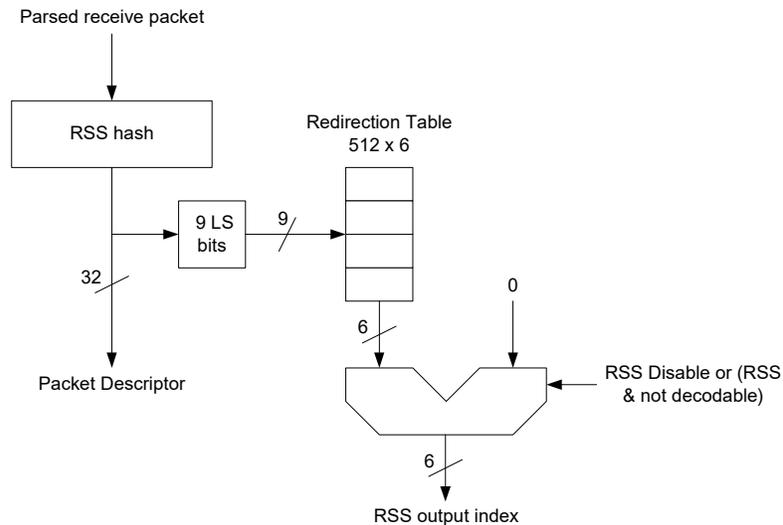
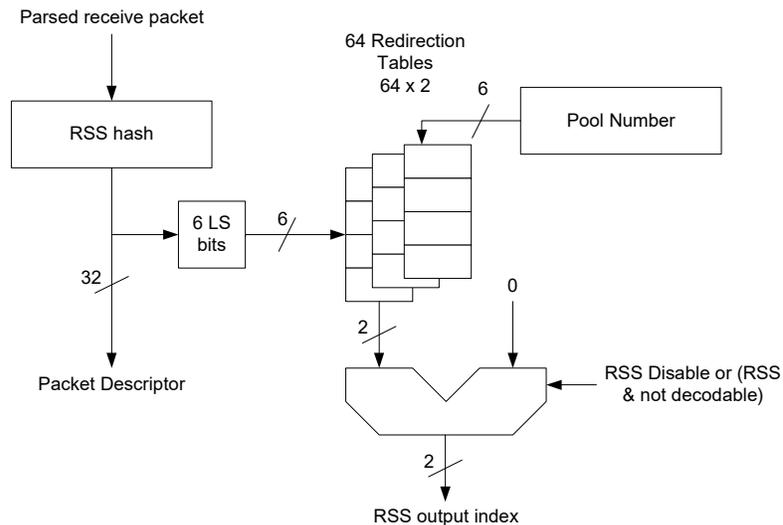

Figure 7-9. RSS Block Diagram (*MULTIPLE\_RSS* = 0b)
Figure 7-10. RSS Block Diagram (*MULTIPLE\_RSS = 1b*)
Figure 7-9 and Figure 7-10 show the process of computing an RSS output:
3. The X550 supports two modes of RSS defined by the MRQC.MULTIPLE\_RSS bit. When set to 0b a single RSS key and redirection table are supported. In this mode (usually used when virtualization is not enabled) the nine LSBs of the hash result are used as an index into a 512-entry redirection table. Each entry provides up to 6-bit RSS output index (Figure 7-9).
For SRIOV or VMDQ enabled modes (set by MRQC.MULTIPLE\_RSS set to 1b), The X550 supports up to 64 (one per pool) RSS keys and redirection tables (both can be controlled and programmed at the VF space). In this mode the 6 LSBs of the hash result are used as an index into a 64-entry redirection table. Each entry provides up to 2-bit RSS output index (Figure 7-10).